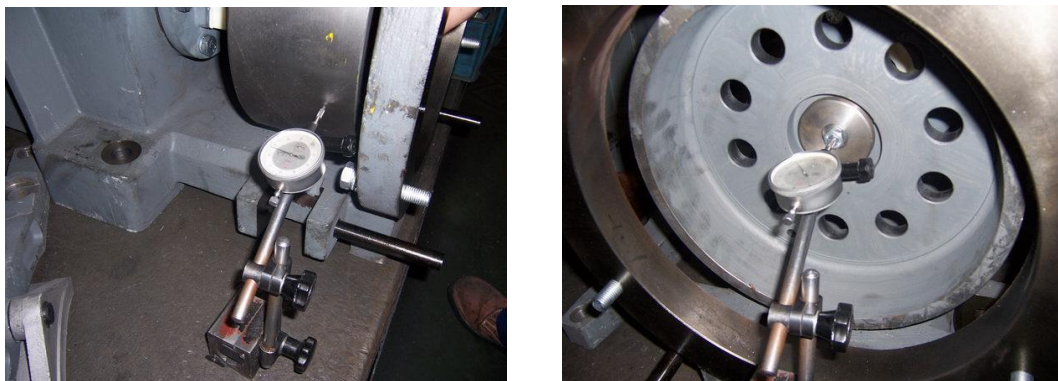

Figure 48 Brake drum radial and axial movement measurement
21. Put the brake drum into the worm shaft, then install the worm shaft front cover assembly, tighten it with bolt (M12x35) and washer (12), and press the brake drum into the position, note the position of the keyway to make the installation of the motor convenient. (The keys of the motor and brake drum must be opposite each other.)
22. Measure the radial travel movement of the brake pulley excircle and the axial gap of the worm shaft with dial indicator. The radial travel movement is no more than 0.1mm, the axial gap is 0.08~0.12mm. Adjust the quantity of the shims until they meet this value. See Figure 48.